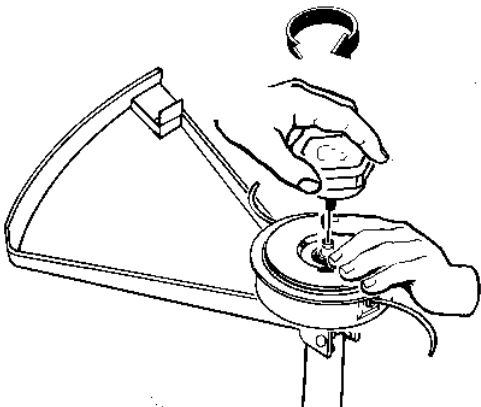

Fig. 20
10. Continue to apply pressure to the spool until the knob can be threaded clockwise onto the spindle. Tighten the knob securely by hand (do not use any other instrument) (Fig. 20).